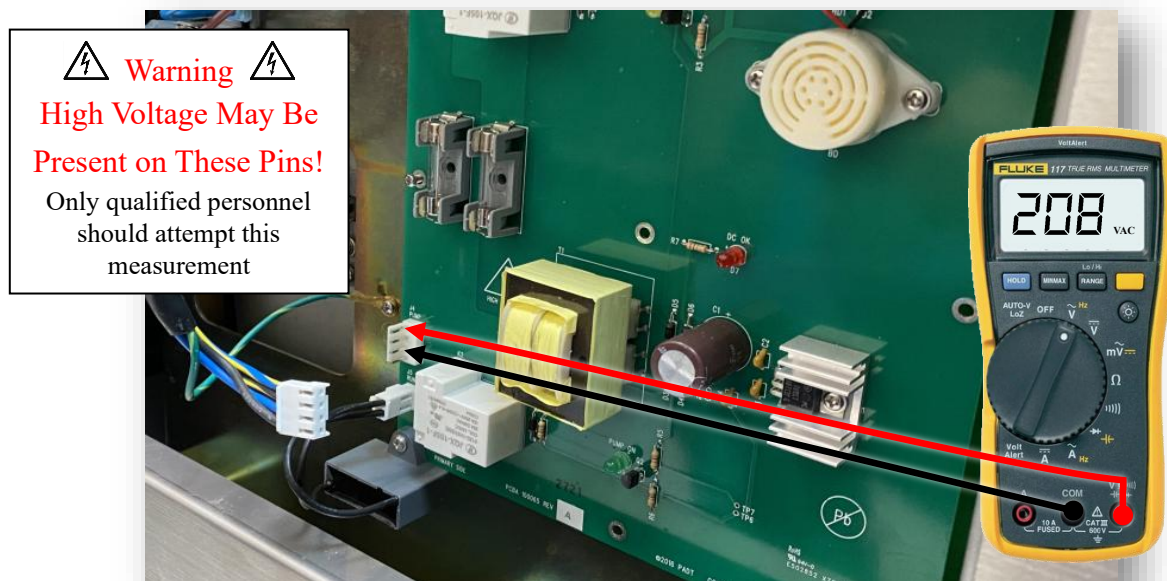

Figure 25 – Pins 2 and 4 (Pump Motor Winding Input Voltage)
- b. Unplug the SCA from power and place one lead of the multimeter Test Hooks to pin 2 and the other Test Hook to pin 4. Plug the SCA into power and power on. Press the Start Button on the Control Panel to enable the Pump. Check the voltage to the Pump between pins 2 and 4 (*See Figure 25*).